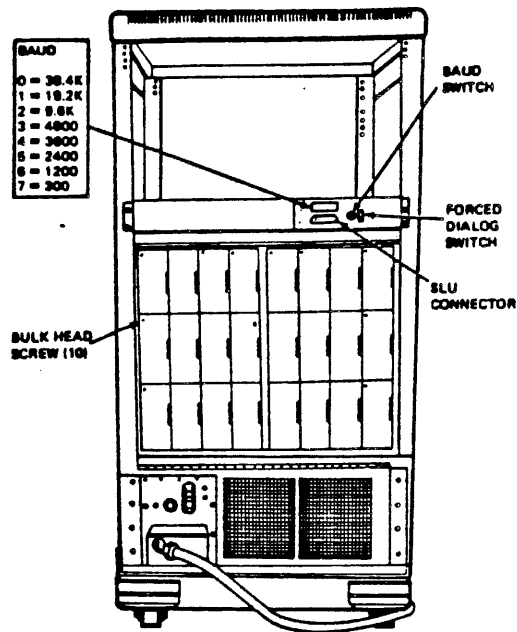

FIGURE 2-6 CABINET REARVIEW
1. Set the Forced Dialogue switch to OFF (0).
3. Set the Baud Rate switch to match the baud rate of the console terminal. (see Figure 2-6.)
5. Turn the power controller circuit breaker to the off (0) position. See Figure 2-6.
3. Turn the power controller circuit breaker to ON (1). See Figure 2-6.